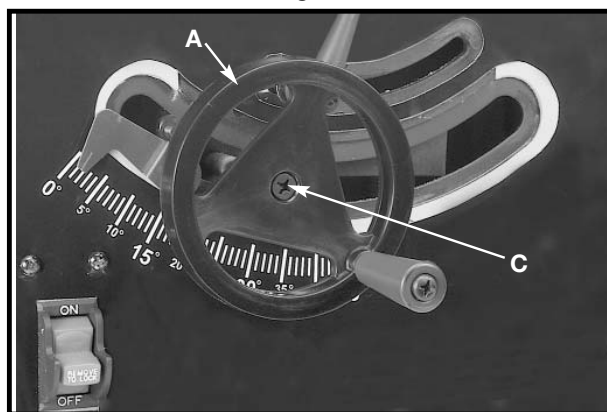

Fig. 16
3. Fasten the handwheel (A) Fig. 16 to the shaft using an M6x1x12mm flat head screw (C)